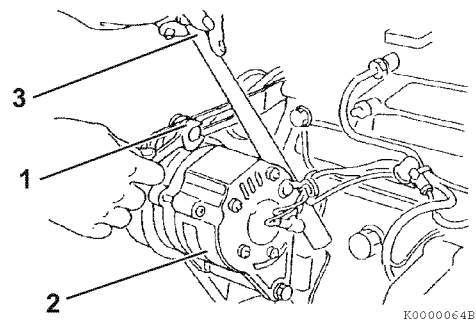

Figure 5-2
2. If necessary, adjust the V-belt tension. Loosen the adjusting bolt (1, **Figure 5-2**) and the other related bolts and/or nuts, then move the alternator (2, **Figure 5-2**) with a pry bar (3, **Figure 5-2**) to tighten the V-belt to the desired tension. Then tighten the adjusting bolts and/or nuts.